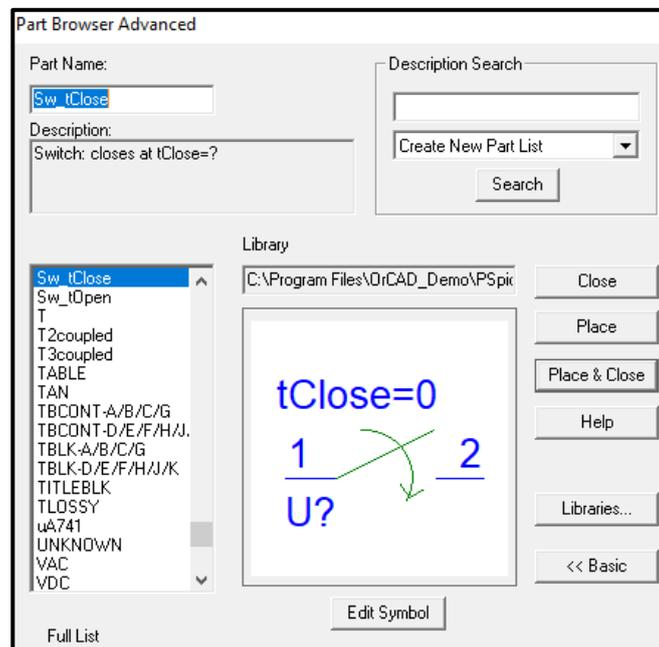

Figure.13
- The switch used here can be found on the components list as shown in figure.13.